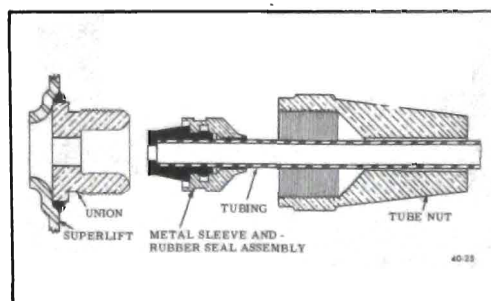

Figure 40-31 - Fitting Nut and Seal
f. Flexible air lines are used throughout the system. The line is 1/8" diameter tubing. Each fitting consists of a rubber seal, metal sleeve and nut. See Figure 40-31. These parts are intended specifically for the 1/8" diameter line and must be used to effect a reliable seal.
1. Preassemble metal sleeve and rubber seal. See Figure 40-31.